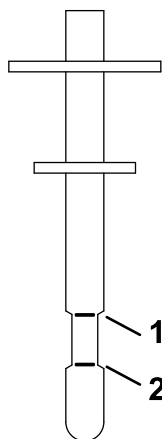

Figure 70
7. Place the dipstick into the filler neck, remove it, and check the fluid level (Figure 70).